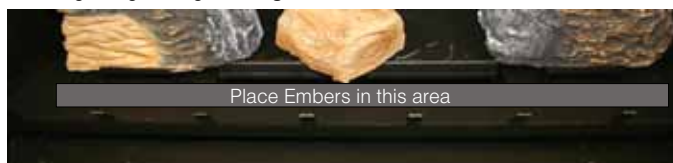

Figure 35f. Placing Embers.
Step 8. Place the Right Center log as shown using the notch in the Top Right log as a guide, **figure 35f**.
Step 9. Place the Embers as shown in **figure 35f**.